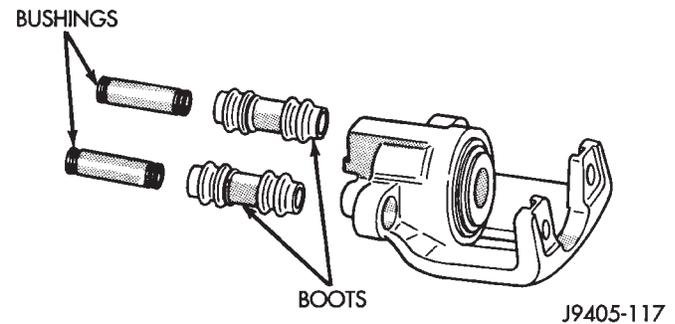

Fig. 75 Mounting Bolt Bushings And Boots
- (1) Remove caliper and brake shoes.
(2) Remove mounting bolt boots and bushings from caliper (Fig. 75).